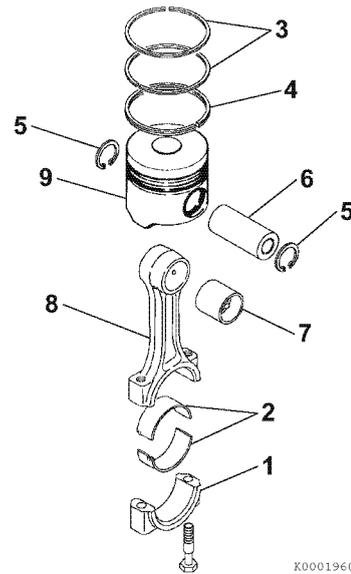

Figure 6-93
4. Lubricate and reinstall the wrist pin (6, **Figure 6-93**) through the piston and connecting rod.
5. Reinstall the second circlip (5, **Figure 6-93**) and ensure it is securely seated in the groove.